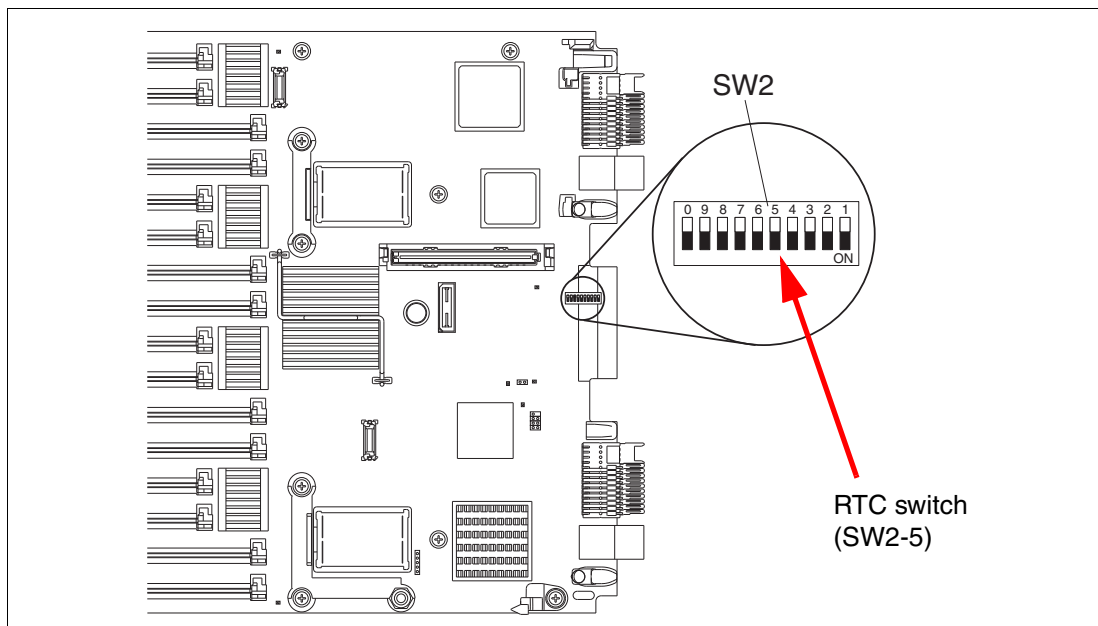

Figure 8-3 Switch block SW2 location
1. Power-cycle the real-time clock (RTC). Locate the switch block SW2 in the middle of the system board at the extreme rear of the server, as shown in Figure 8-3. You must remove all of the expansion cards to reach the jumper block.
2. The numbers on the switch block represent the OFF side of the switch. Locate switch 5, which is the RTC switch. To clear the CMOS, remove the plastic sheet from the jump block, as shown in Figure 8-3 on page 375. Set switch 5 on switch block SW2 to the ON position for 5 seconds and then return it back to the OFF position.